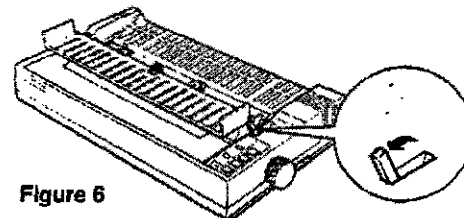

Figure 6
1. Turn off the printer and remove the printer cover and paper guide. Make sure the paper release lever is pulled forward (continuous paper position) to allow paper to feed smoothly (Figure 6).